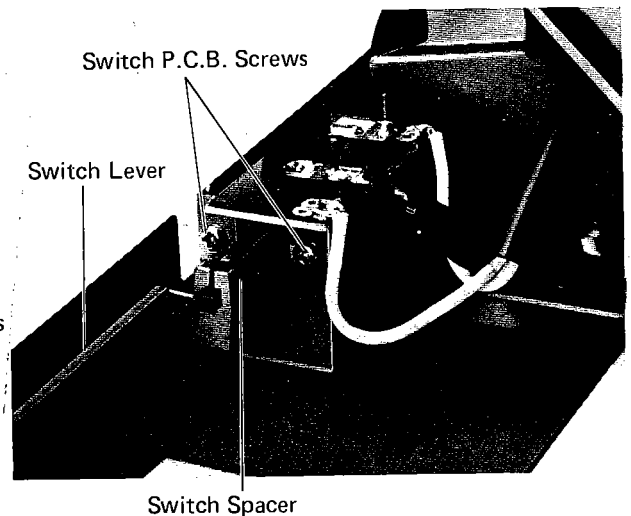

Figure 7
- (1) Remove two screws as shown in Figure 7.
- (2) Detach the switch lever from the switch spacer as shown in Figure 7.
- (3) Disconnect all wires from the P.C.B..